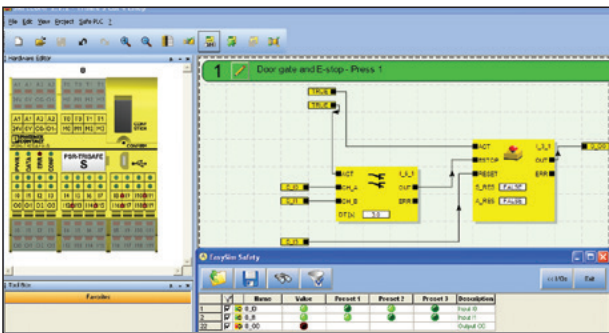

FIGURE 2: A screen capture from safety controller software
- **Drag-and-drop menus:** Today’s safety controller software is designed with “drag-and-drop” functionality with “non-programmers” in mind to simplify the design process. (See Figure 2)